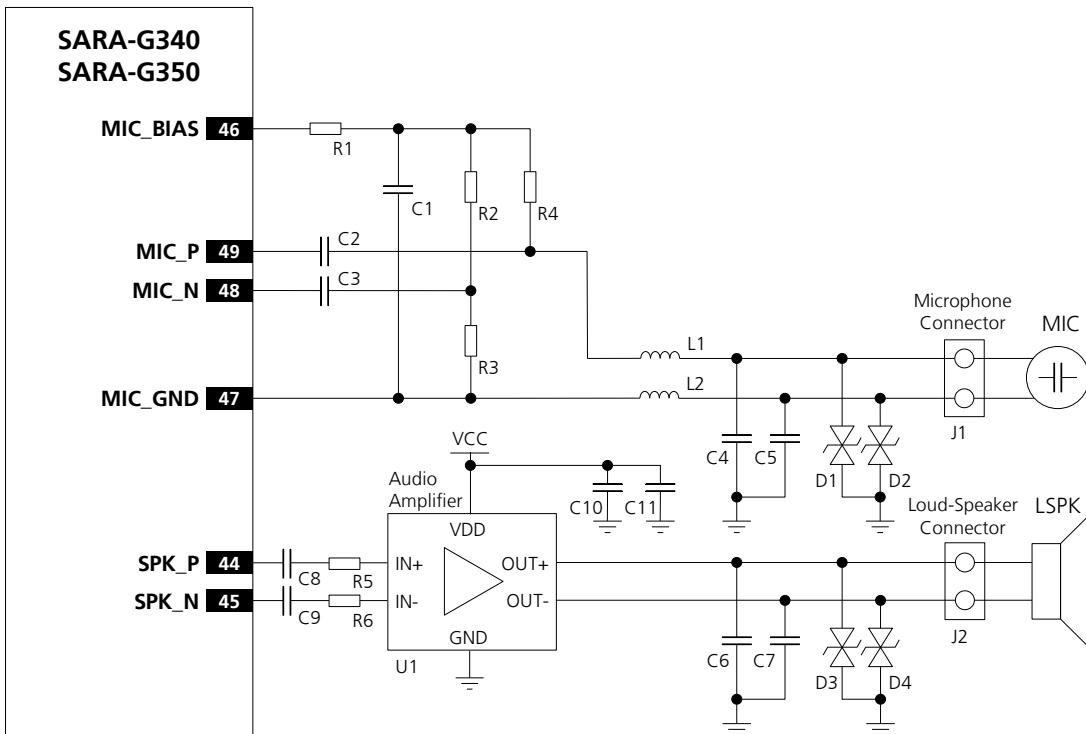

Figure 84: Analog audio interface hands-free mode application circuit
Figure 84 shows an application circuit for the analog audio interface in hands-free mode, connecting a  $2.2\text{ k}\Omega$  electret microphone and an  $8\text{ }\Omega$  or  $4\text{ }\Omega$  loudspeaker:
As in the example circuit in Figure 84, follow the general guidelines for the design of an analog audio circuit for hands-free mode:
- Provide an appropriate series capacitor at both **MIC\_P** and **MIC\_N** analog uplink inputs for DC blocking ( $C2$  and  $C3$   $100\text{ nF}$  Murata GRM155R71C104K capacitors in Figure 84). This provides a high-pass filter for the microphone DC bias with the corresponding cut-off frequency according to the value of the resistors of the microphone supply circuit. Then connect the signal lines to the microphone.
- Mount an  $82\text{ nH}$  series inductor with a Self Resonance Frequency  $\sim 1\text{ GHz}$  (e.g. the Murata LQG15HS82NJ02) on each microphone line ( $L1$  and  $L2$  inductors in Figure 84).
- Mount a  $27\text{ pF}$  bypass capacitor (e.g. Murata GRM1555C1H270J) from each microphone line to solid ground plane ( $C4$  and  $C5$  capacitors in Figure 84).
- Provide a  $47\text{ nF}$  series capacitor at both **SPK\_P** and **SPK\_N** analog downlink outputs for DC blocking ( $C8$  and  $C9$  Murata GRM155R71C473K capacitors in Figure 84). Then connect the lines to the differential input of an appropriate external audio amplifier, differential output which must be connected to the  $8\text{ }\Omega$  or  $4\text{ }\Omega$  loudspeaker (see the Analog Devices SSM2305CPZ filter-less mono 2.8 W class-D Audio Amplifier in the circuit described in Figure 84.)
- Mount a  $27\text{ pF}$  bypass capacitor (e.g. Murata GRM1555C1H270J) from each loudspeaker line to solid ground plane ( $C6$  and  $C7$  capacitors in Figure 84).
- Provide additional ESD protection (e.g. Bourns CG0402MLE-18G varistor) if the analog audio lines will be externally accessible on the application device, according to the EMC/ESD requirements of the custom application. The protection should be mounted close to an accessible point of the line (D1-D4 parts in the circuit described in Figure 84).